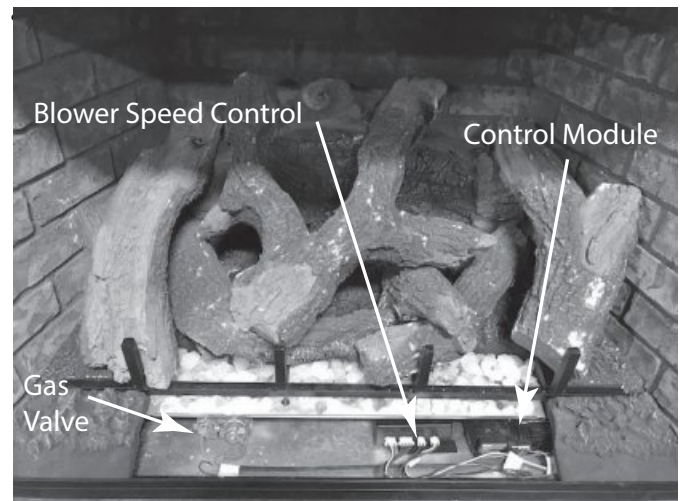

Figure 3.6
- Gas valve and electrical components should now be accessible. See Figure 3.6.